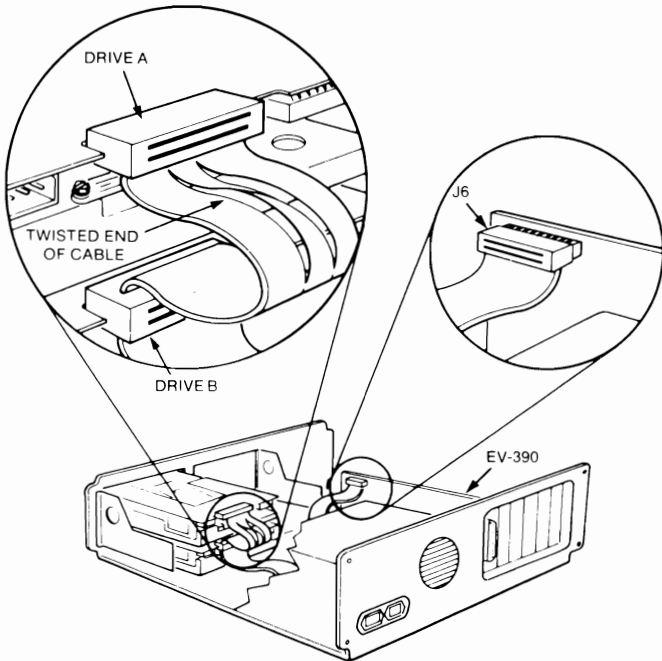

Figure 16: Installing the Floppy Disk Cable
The daisy-chain cable is keyed to prevent installing the cable backwards. The untwisted end of the cable should be attached to the J6 connector. Make sure to align the cable with pin 1 on the controller; the color stripe on the cable should be on the right side as you see the component side of the controller. (See Figure 16.)
3. Connect the cable's middle connector to drive "B", and connect the end connector to drive "A". (See Figure 16.)